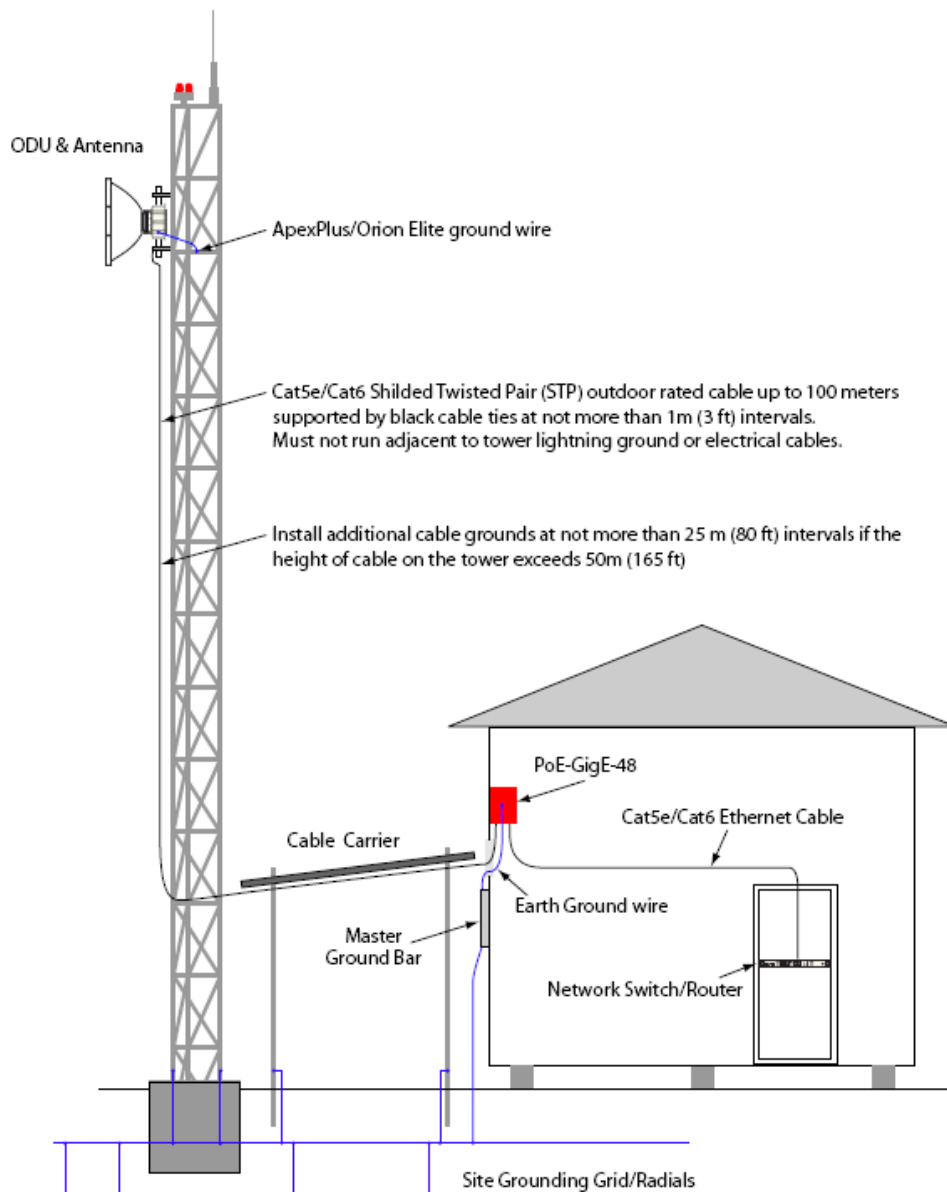

Figure 6 PoE Based Grounding Diagram
1. **Out-of-Band Management Port:** Always use a shielded *Cross-Over* Ethernet cable when connecting the out-of-band Management Port to a COMPUTER (see Figure 6).